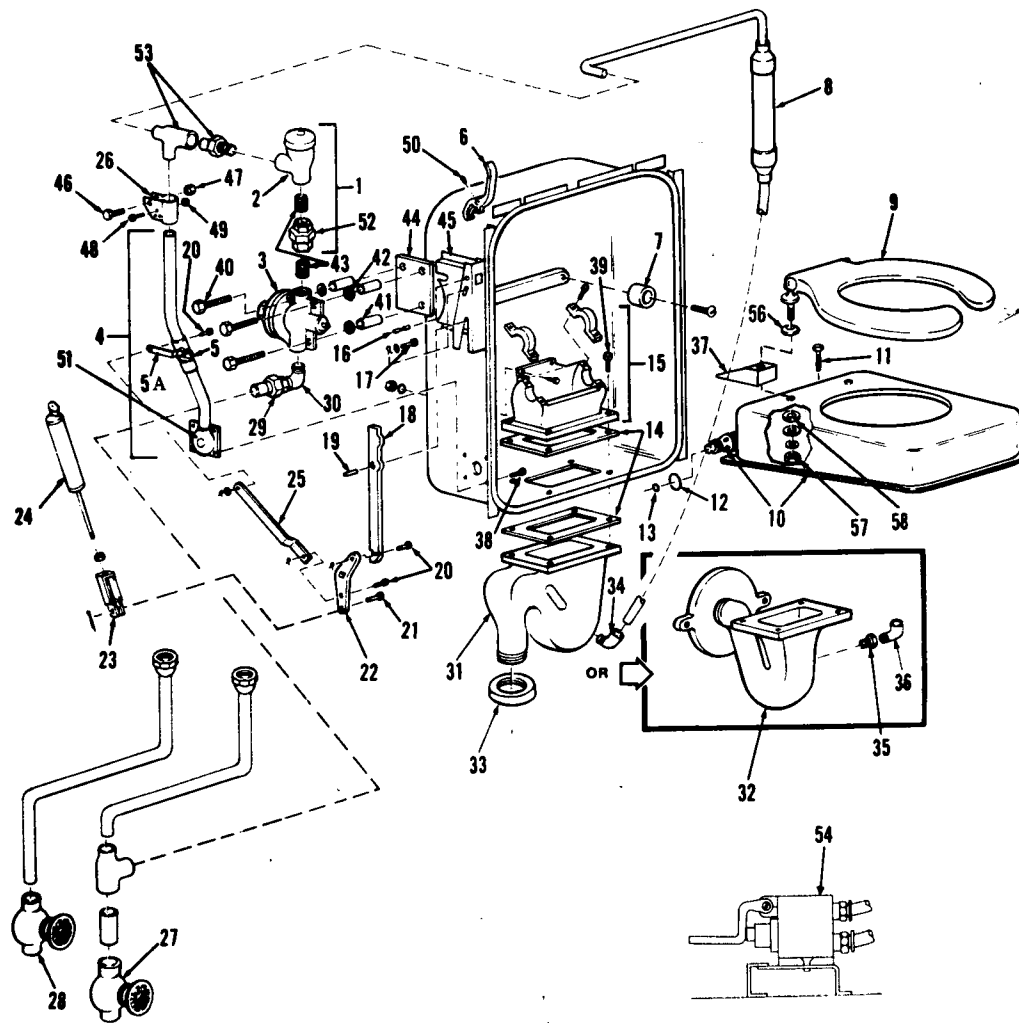

Figure 5-1: MODULAV BODY ASSEMBLY (Right-hand Model Shown).
4-3. PIVOT CYLINDER "O" RINGS (FIG. 5-1)**Replacement**
Cold water valve (item 27, Figure 5-1) is no longer available.